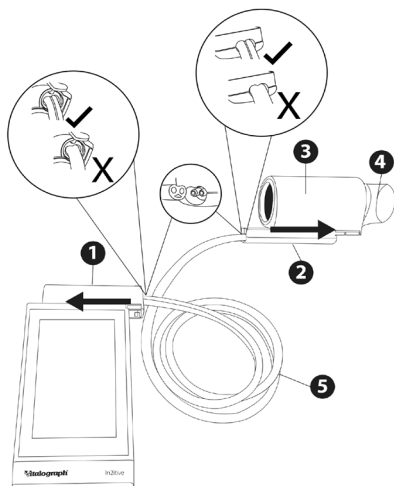

Figure 2: Remote Flowhead Assembly
If the remote flowhead is required (see Figure 2 below):
8. Unwrap flowhead connection tubing (5) and connect one end to the device cap (1). The tubing is keyed as shown in Figure 2 match this to the key on the device cap connector to ensure the tubing is in the correct orientation.
9. Connect the other end of flowhead tubing to the flowhead adaptor (2). The tubing is keyed as shown, matching this to the key on the adaptor connector to ensure the tubing is in the correct orientation.